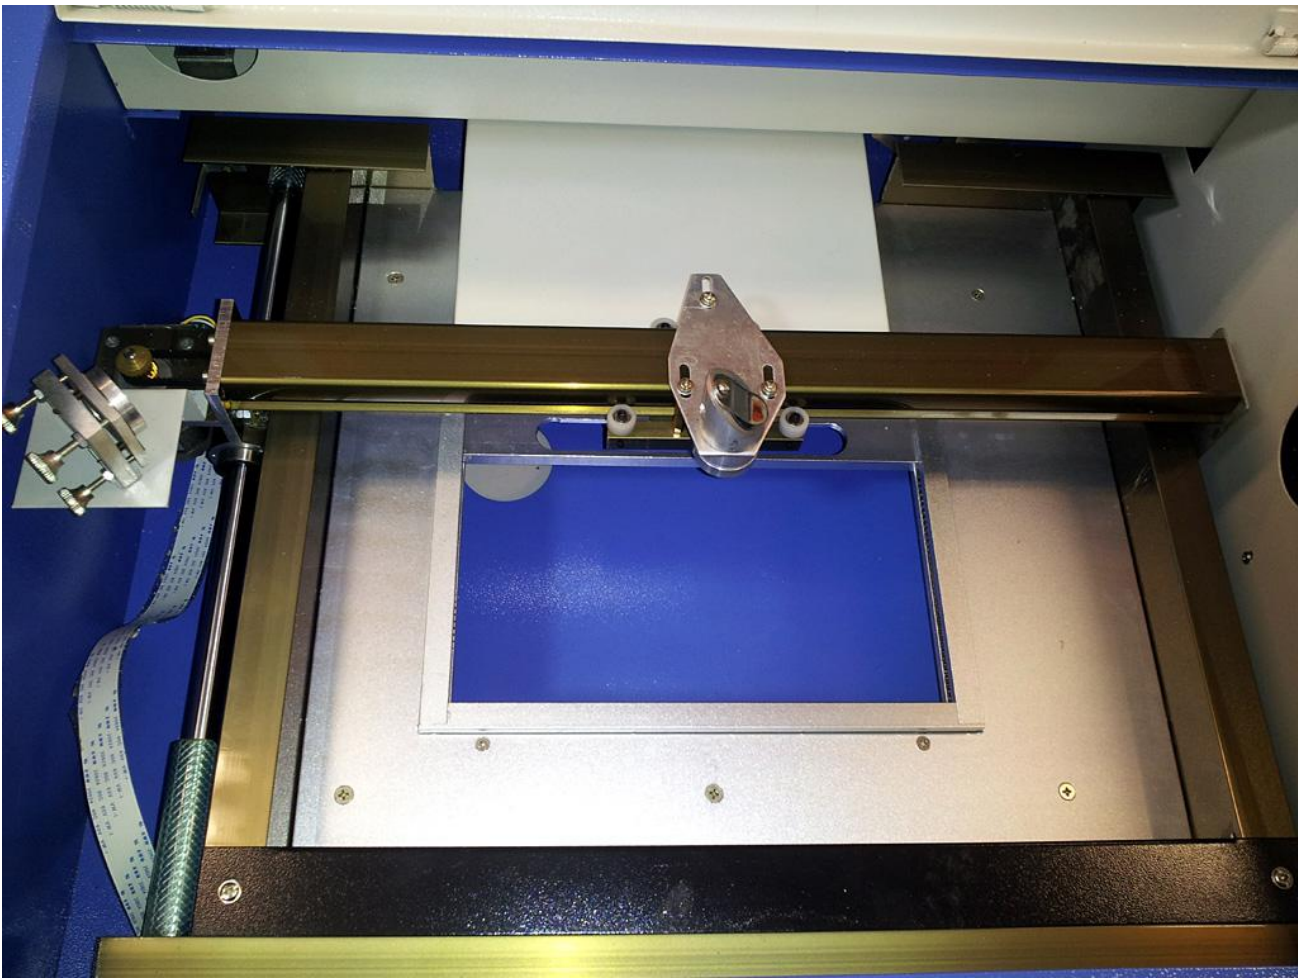
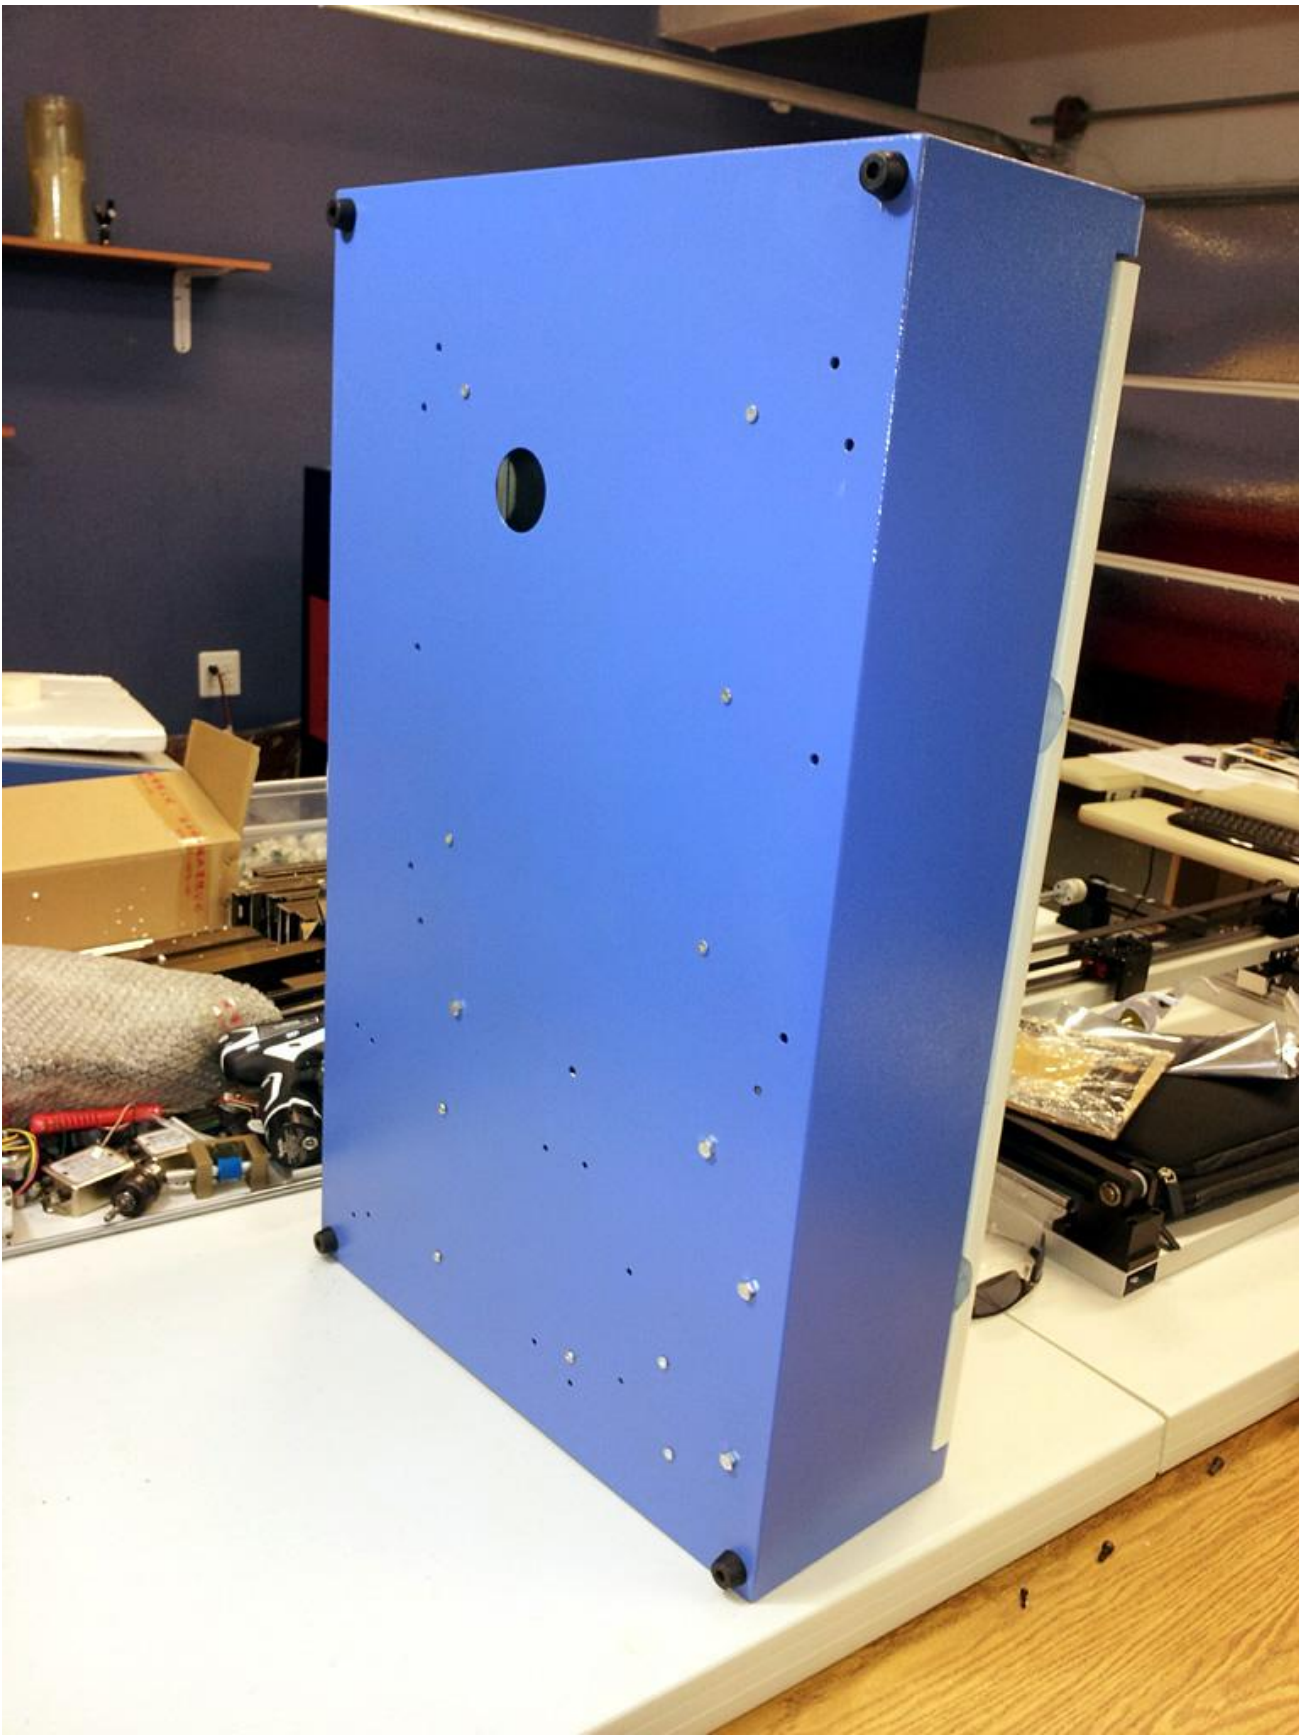

Fig 2. XY stages and flat bed
Fig 4.
2.1 remove the flat bed (silver panel, see Fig 2) from the machine. To do so, the machine must be lifted up in a vertical position to unscrew the unit from the bottom. See Fig 4: